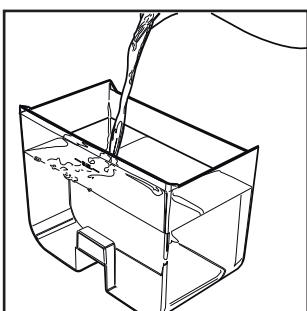

Fig.3
- (Fig.3) - Mix the descaling solution with water as specified on the pack of the descaling product and fill the water tank; insert the tank into the machine.